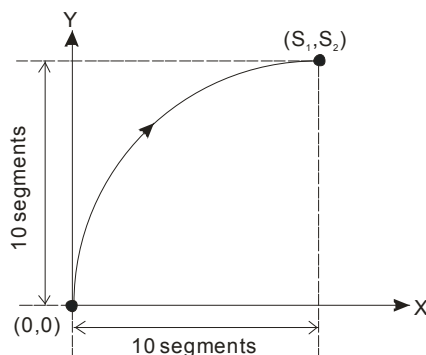
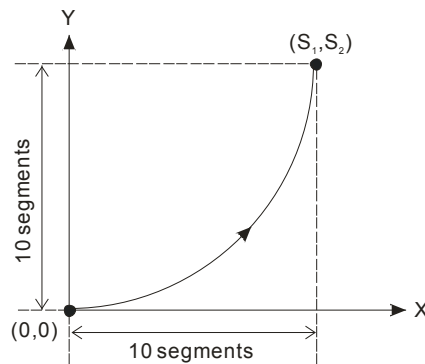

Figure 1
Figure 3
- When the lower 16 bits of **S** are K0, this refers to a clockwise 10-segment (average resolution) output; K2 refers to a clockwise 20-segment (higher resolution) output for a 90° arc (see figure 1 and 2). K1 refers to a counterclockwise 10-segment (average resolution) output; K3 refers to a counterclockwise 20-segment (higher resolution) output for a 90° arc (see figure 3 and 4).